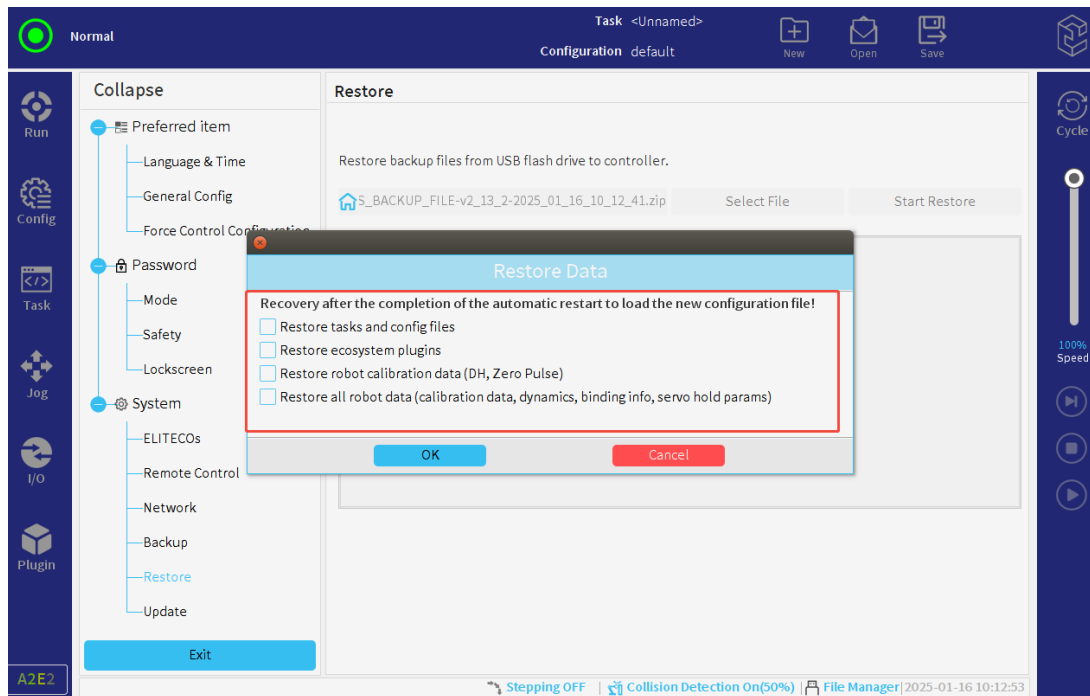

Figure 3-24 : Restoring Data Options
5. Select the specific data to be restored from the pop-up window (see **Figure 3-24**) and then tap "OK".